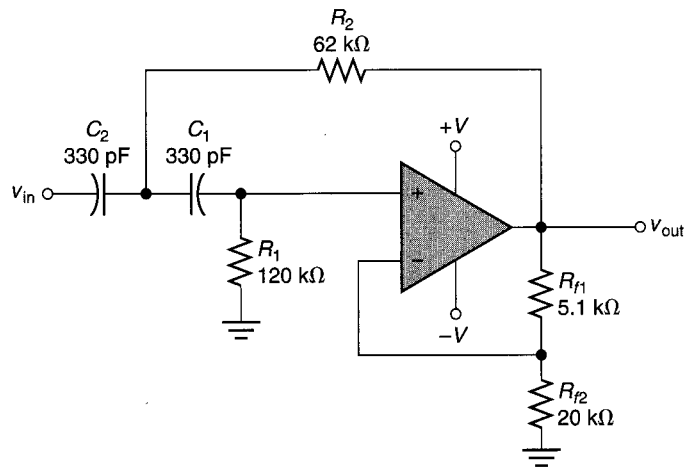

FIGURE 17.49
- 14.** Calculate the lower cutoff frequency and closed-loop voltage gain of the filter in Figure 17.49.